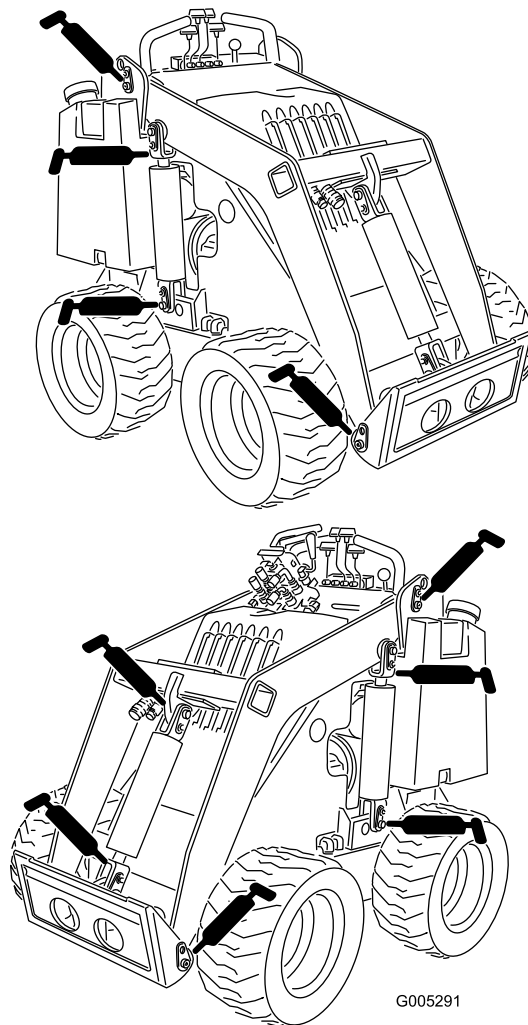
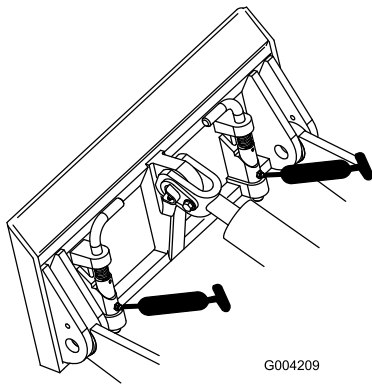

Figure 18
Figure 19
4. Connect a grease gun to each fitting (Figure 18 and Figure 19).